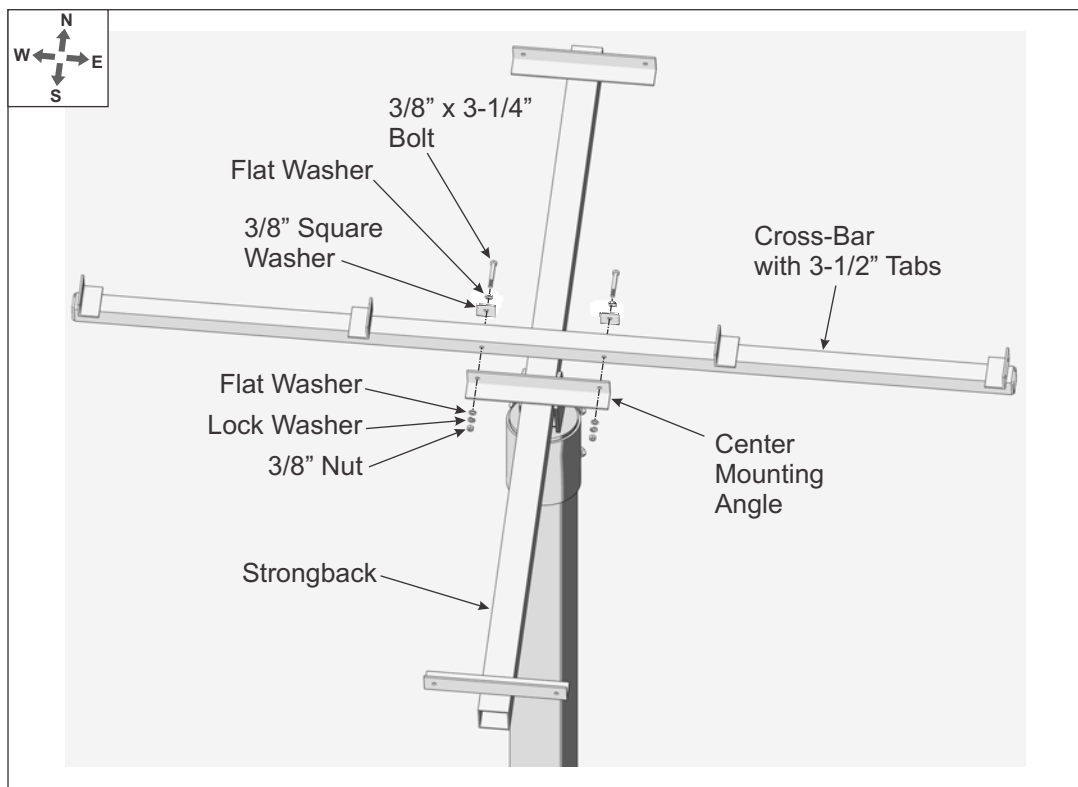

Figure 3-3: Installing Cross-Bars on the Strongback
- A. Starting at the N-S center position of the Strongback, install the Cross-Bar with the 3-1/2" long mounting tabs. (See Figure 3-3)